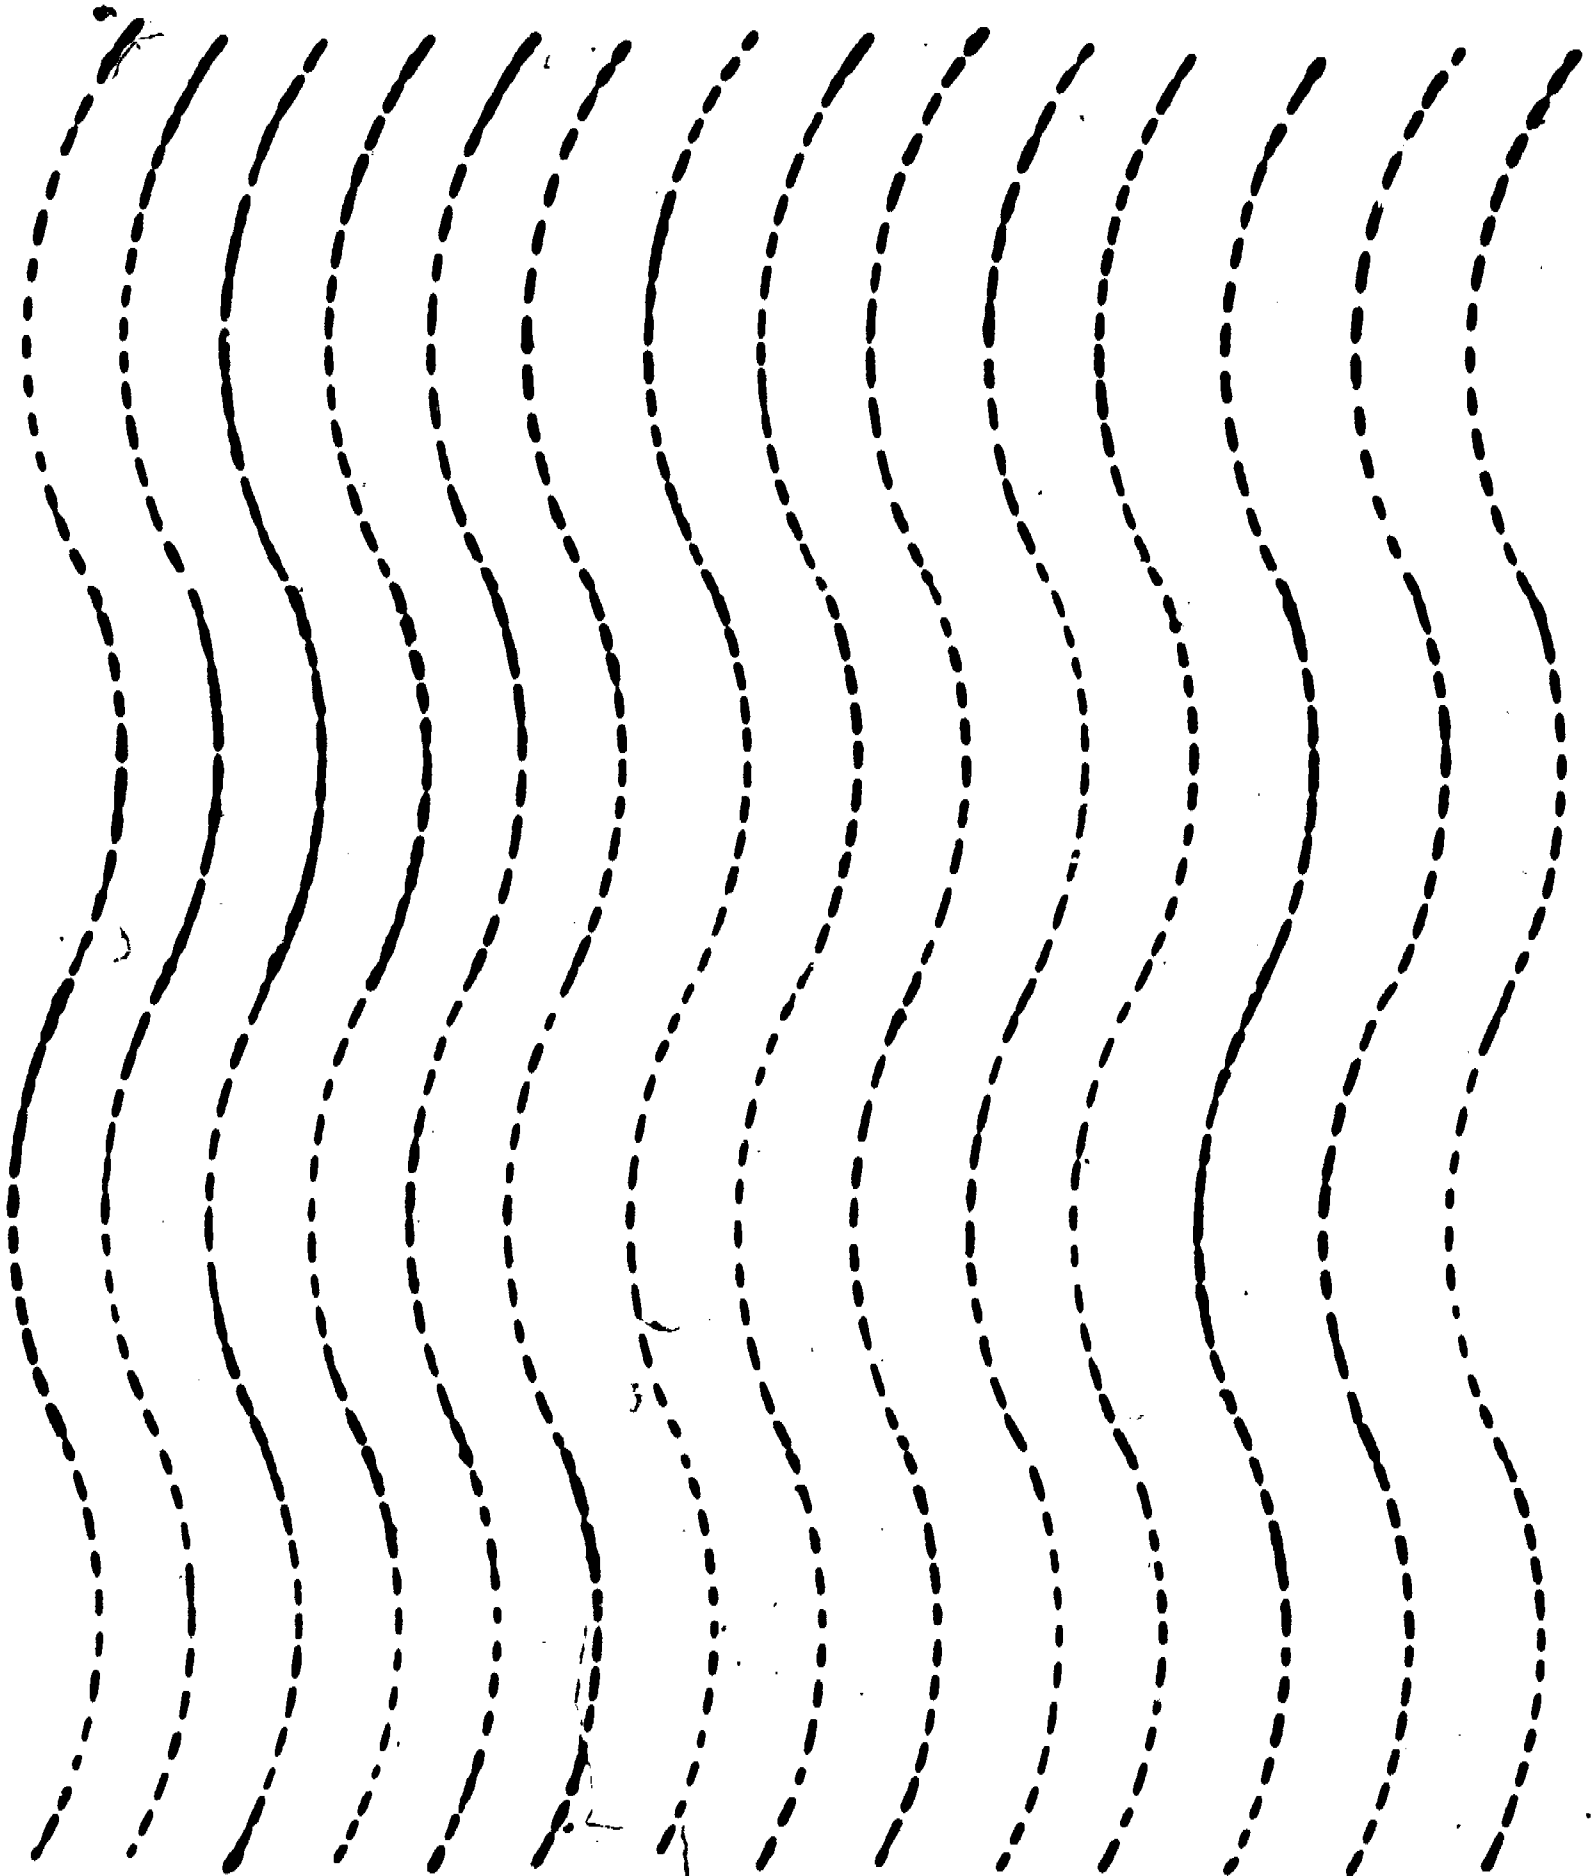
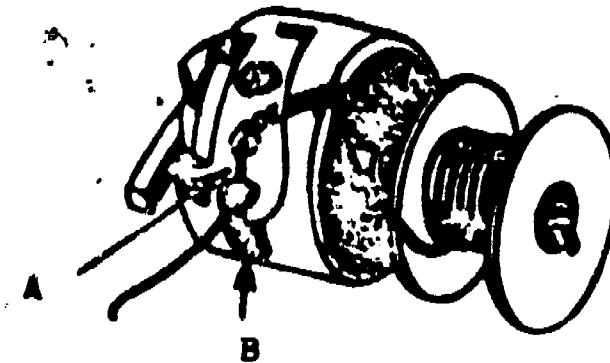

Figure 13.
Figure 19. Bobbin and Bobbin Case.
1. Pull the thread end back through the slot (figure 13, part A) and out the opening (figure 19, part B) leaving about a 4-inch end of thread.